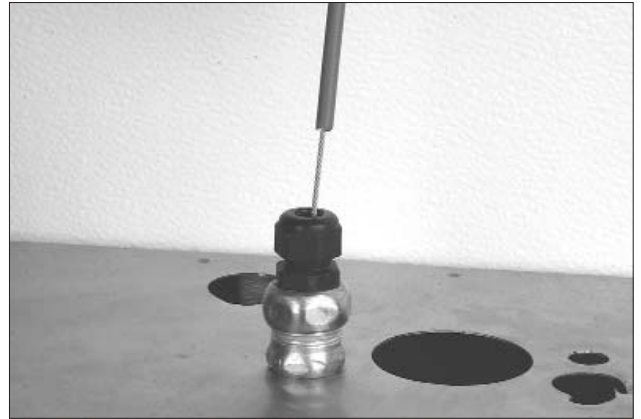

FIGURE 53
8. Thread the wire rope through the flexible conduit. See Figure 53. (If a splice is required in the flexible conduit, proceed to "Splicing Installation Instructions.")